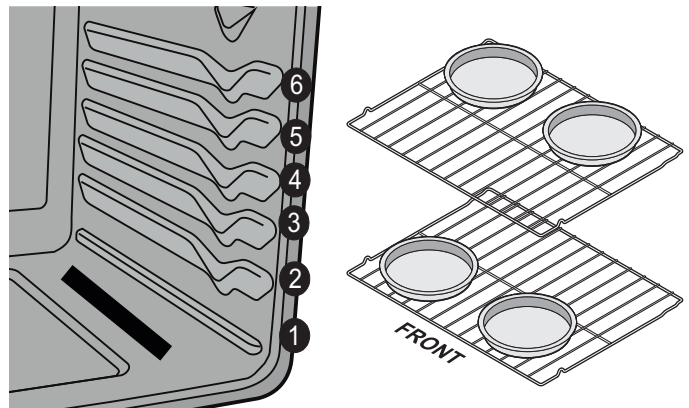

Figure 20: Rack positions and pan placement
- For best results when baking layer cakes using two oven racks, place racks in positions 3 and 5 and place pans as shown in Figure 20.